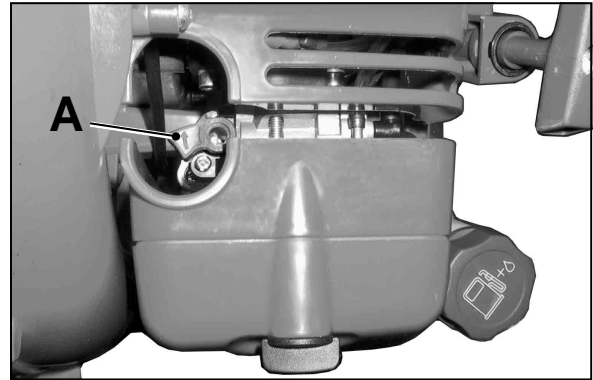

fig.1
- **“Lift-Starter”** device (“A” fig.1), an engine starting system that automatically inhibits the choke when the throttle is opened fully, thereby eliminating the risk of flooding the carburettor.